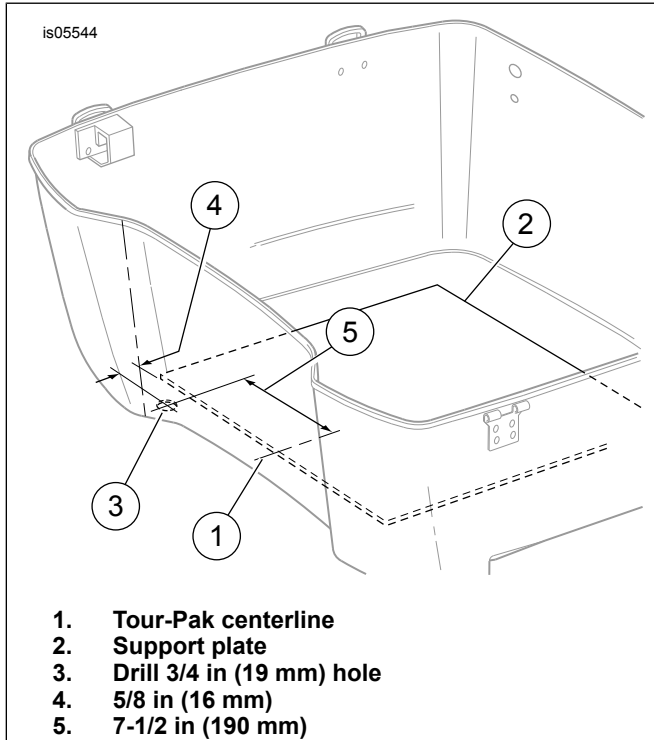
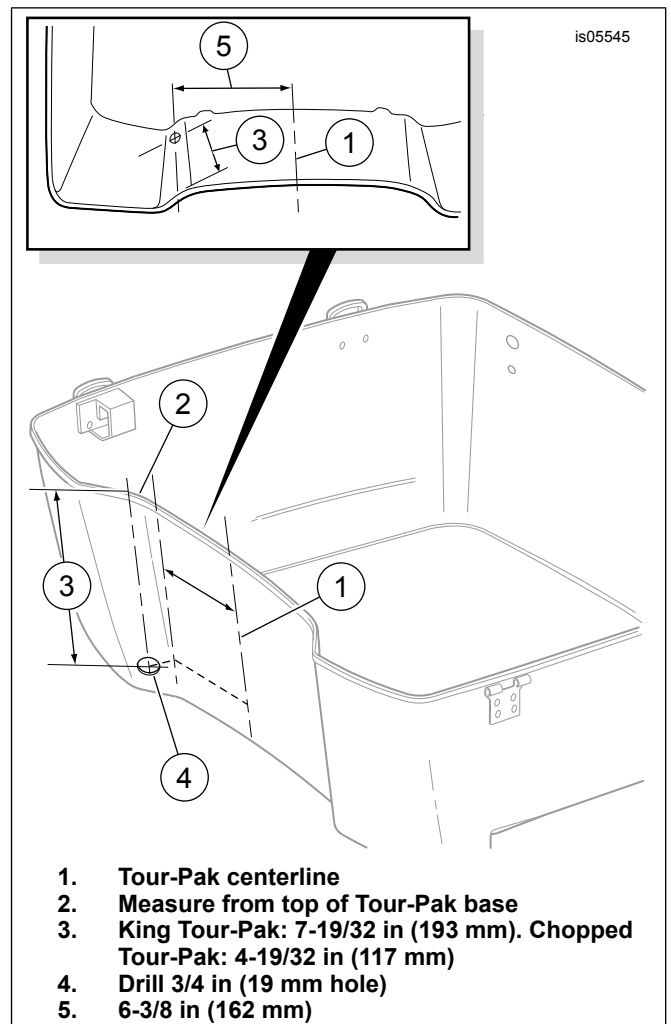

Figure 2. CB Antenna Cable Drilling Location (Type 1 Tour-Pak)
Figure 3. CB Antenna Cable Drilling Location (Type 2 Tour-Pak)
- a. See Figure 2. Measure and determine the center (1) of the support plate (2) that covers the floor of the Tour-Pak.
- c. Measure again and mark the center of the support plate (2) at the front of the tape strip, and again near the back. Draw a straight line through the two marks.
- d. Facing the tape, measure 7-1/2 in (190 mm) (5) from the center line to the right side floor of the Tour-Pak.
- g. Measure forward 5/8 in (16 mm) (4) from the front edge of the support plate, and draw a short line across the line drawn in the step above.
- j. From the underside of the Tour Pak drill a 3/4 in (19 mm) hole (3) from the outside of the Tour-Pak to the inside.
- l. See Figure 3. Measure and determine the center (1) of the inside front Tour-Pak wall.
- o. Facing the tape, measure 6-3/8 in (162 mm) from the center line to the right side front Tour-Pak wall. Do not follow the curve of the wall, but measure **straight across**. See Figure 3 inset.
- q. Measure again and mark the tape 6-3/8 in (162 mm) (5) **straight across** from the center line, near the top of the tape strip and again near the bottom of the strip. Draw a line from the top mark to the bottom mark.
- r. **For King Tour-Pak:** Measure down 7-19/32 in (193 mm) (3) from the top edge of the Tour-Pak. **For Chopped Tour-Pak:** Measure down 4-19/32 in (117 mm) (3) from the top edge of the Tour-Pak. Draw a short horizontal line across the vertical line.
- u. From the outside of the Tour Pak drill a 3/4 in (19 mm) hole (4) through the guide hole to the inside.